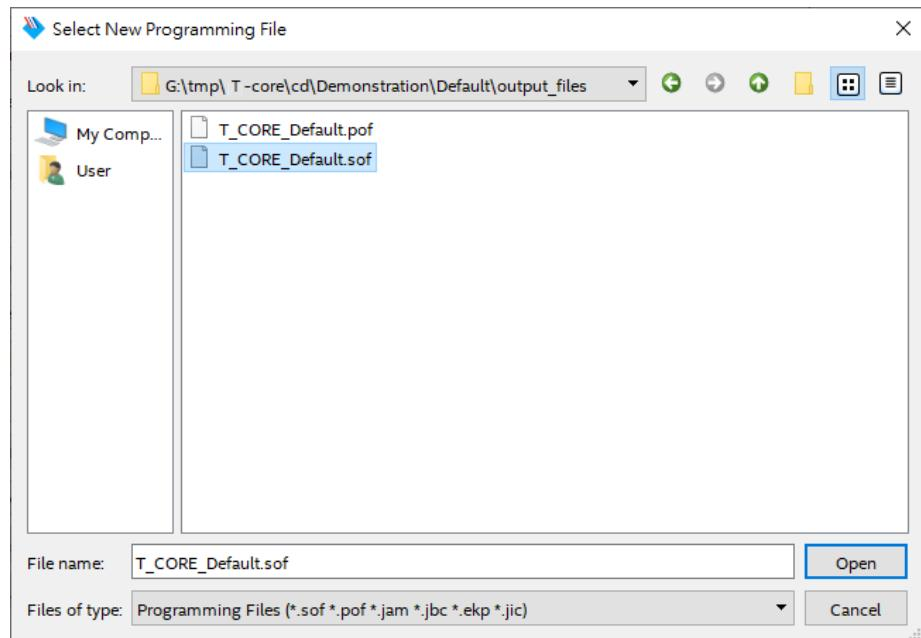

Figure 2-9 Select the .sof file to be programmed into the FPGA device
8. Open the “output_files” folder and select the .sof file to be programmed, as shown in **Figure 2-9**.